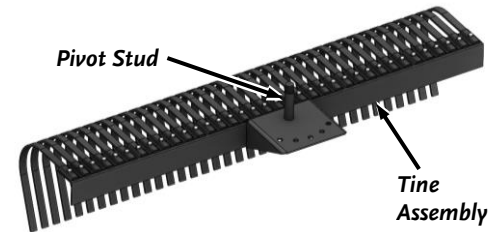

Figure 5
2. Position the Tine Assembly as shown and have a helper hold it in position for the next step (**Figure 5**).